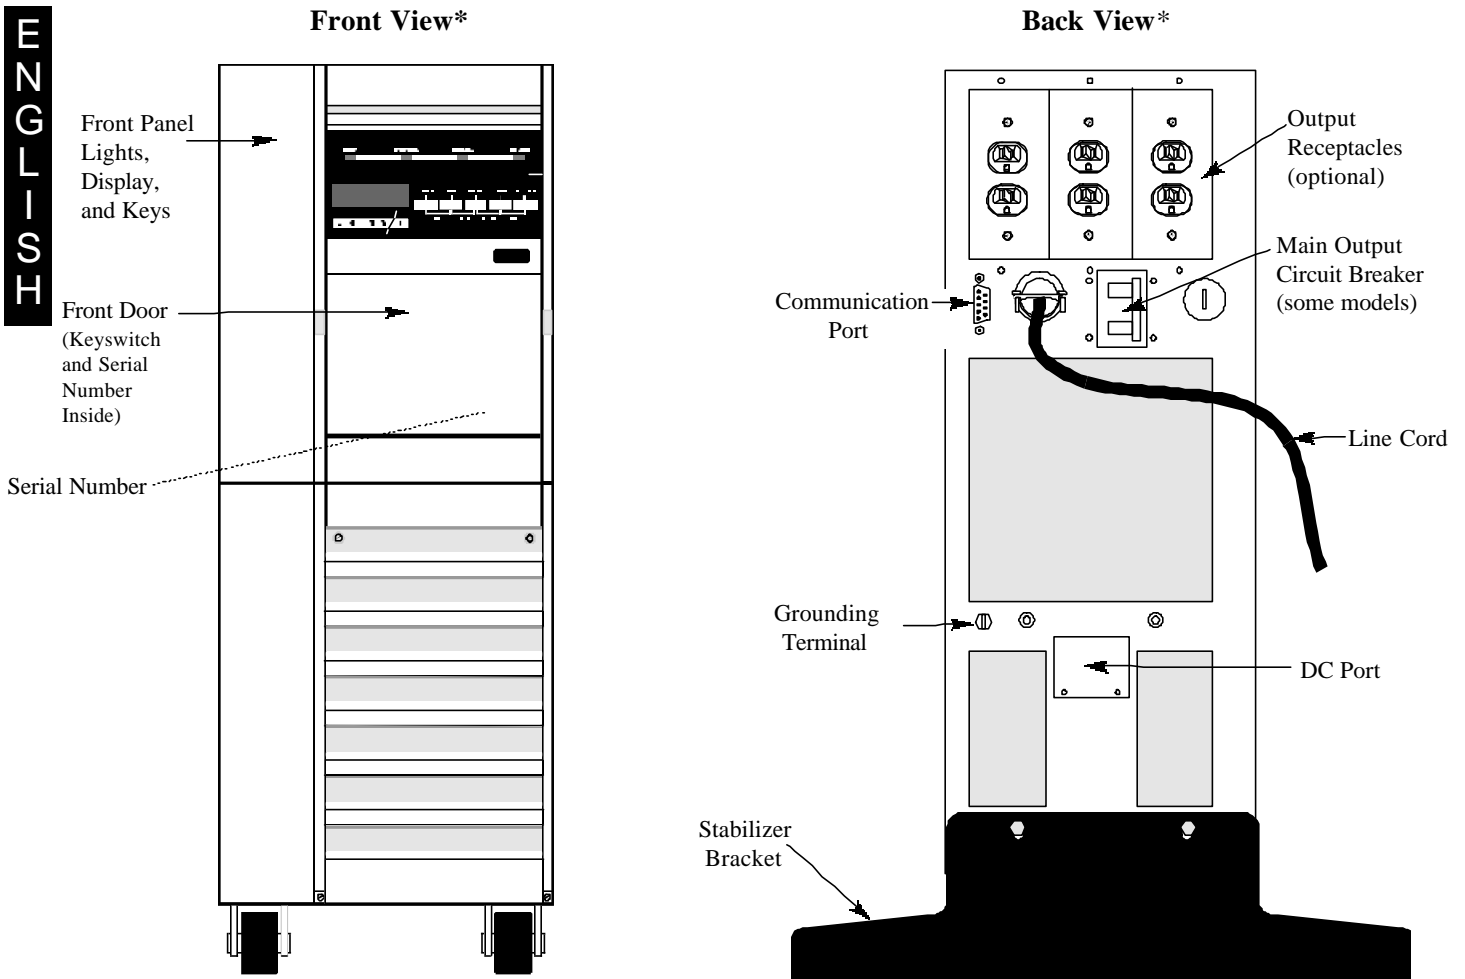
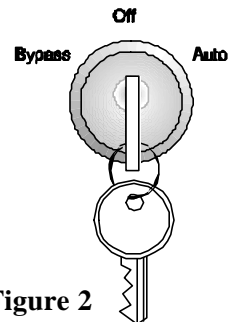

Figure 1
Figure 2
* The drawings in Figure 1 show a UT3K, UT4K or UT5K. The UT8K is similar in appearance.
- 2** Open the UPS' front door by pulling the top of the door toward you (see Figure 1 to find the door). Make sure that the keyswitch inside the front door is turned to "Off" (see Figure 2).
The UPS' front door is below the front panel keys (see Figure 1 in Section 100). To open the door, pull the top of the door toward you. The keyswitch and Emergency Power Off (EPO) reset button are inside the front door. In addition, the labels inside the door contain useful reference information. See Figure 9.